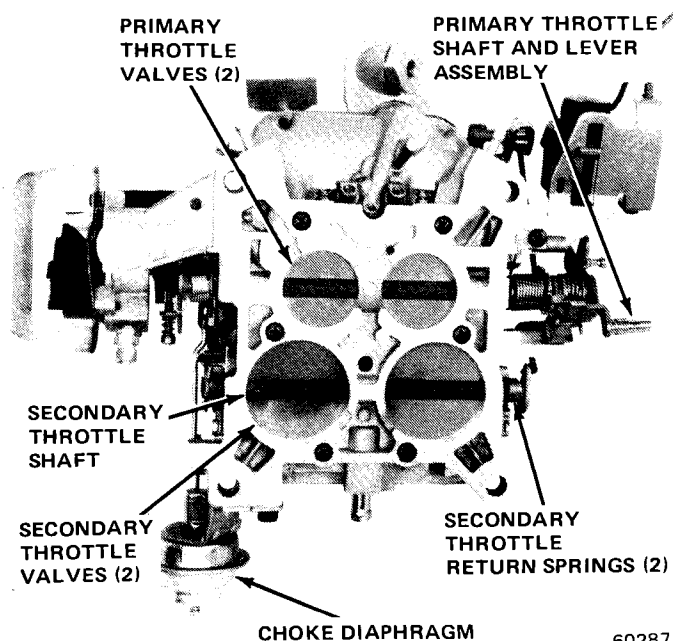

Fig. 4-73 Throttle Body—Bottom View
- (17) Remove main metering jets.
- (18) Remove accelerating pump inlet check ball retainer, then turn main body over and catch ball from pump well.
- (19) Remove throttle body to main body screws from bottom of throttle body (fig. 4-73) and separate the two castings.
- (20) Remove choke housing cover screws, cover, gasket and thermostatic spring.
- (21) Remove choke diaphragm assembly.
- (22) Remove retainers from secondary throttle-lever-to-primary-throttle connecting link, remove link.
- (23) Remove throttle kicker assembly.
- (24) If it is necessary to remove throttle plates or shafts from throttle body, remove throttle plate attaching screws and plates.
- (25) Slide secondary throttle shafts and return springs out of throttle body.
- (26) Remove screw from primary throttle shaft and remove fast idle lever and adjusting screw. Slide throttle shaft and primary throttle shaft and lever assembly out of throttle plate.
- (27) Remove primary throttle lever assembly retainer, then slide lever and springs off shaft.
- (28) If it is necessary to remove fast idle cam or bushing, carefully press bushing out of choke housing and bushing column.